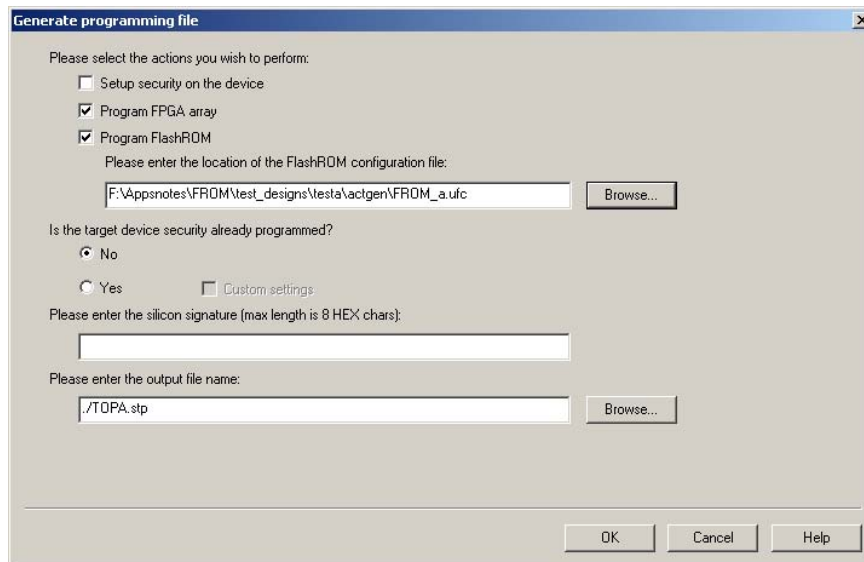
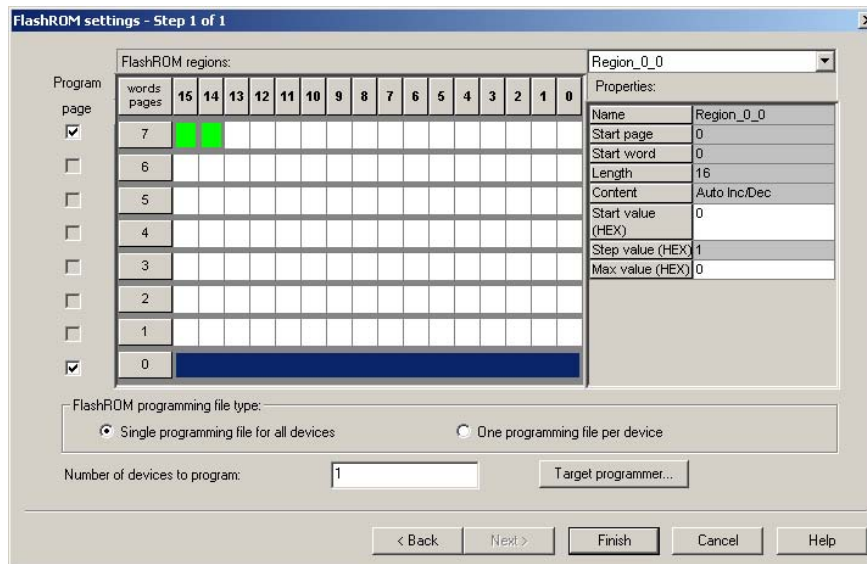

Figure 5-12 • Programming File Generator
Figure 5-13 • Setting FlashROM during Programming File Generation
Figure 5-12 shows the programming file generator, which enables different STAPL file generation methods. When you select **Program FlashROM** and choose the UFC file, the FlashROM Settings window appears, as shown in Figure 5-13. In this window, you can select the FlashROM page you want to program and the data value for the configured regions. This enables you to use a different page for different programming files.
3. Select **Programming File** in Designer and open **Generate Programming File** (Figure 5-12 on page 5-12).
4. Click **Program FlashROM**, browse to the UFC file, and click **Next**. The FlashROM Settings window appears, as shown in Figure 5-13 on page 5-12.